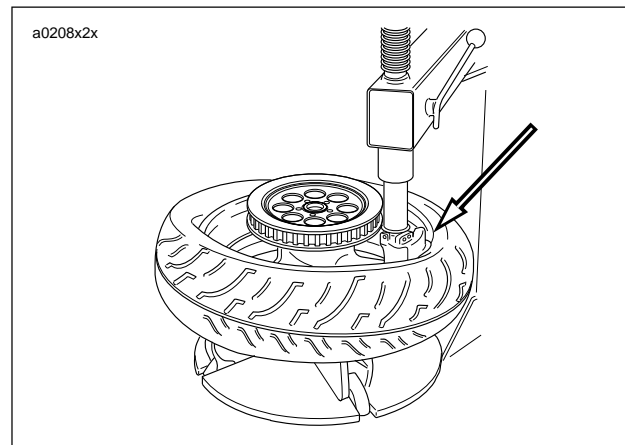

Figure 2-21. Tire Machine Pulling Bead Off Rim
5. See Figure 2-21. Install wheel onto jaws of tire machine. Lubricate tire bead with soap solution.